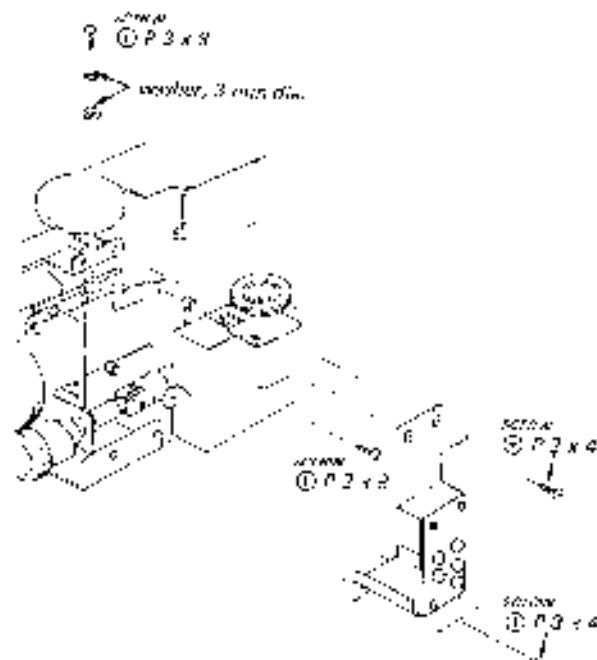

Fig. 2-3.
3. Set the FM front end with three screws. See Fig. 2-3, arrow.